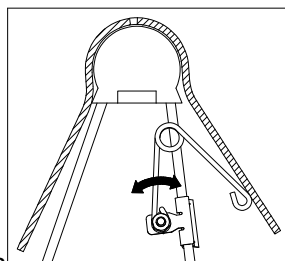

Figure E2: Cutaway view of driver side pivot arm and saddle.
2. **Set coupler angle.** Adjust the resting angle of your coupler plate by rotating the spring on the driver side pivot arm. Pulling the top of the spring away from the cab will increase the angle of the coupler plate. Set the angle of the coupler so that it will tilt away from the cab when coupling, see Figure E2. Tighten the 1/4" nut once the spring's orientation is set.